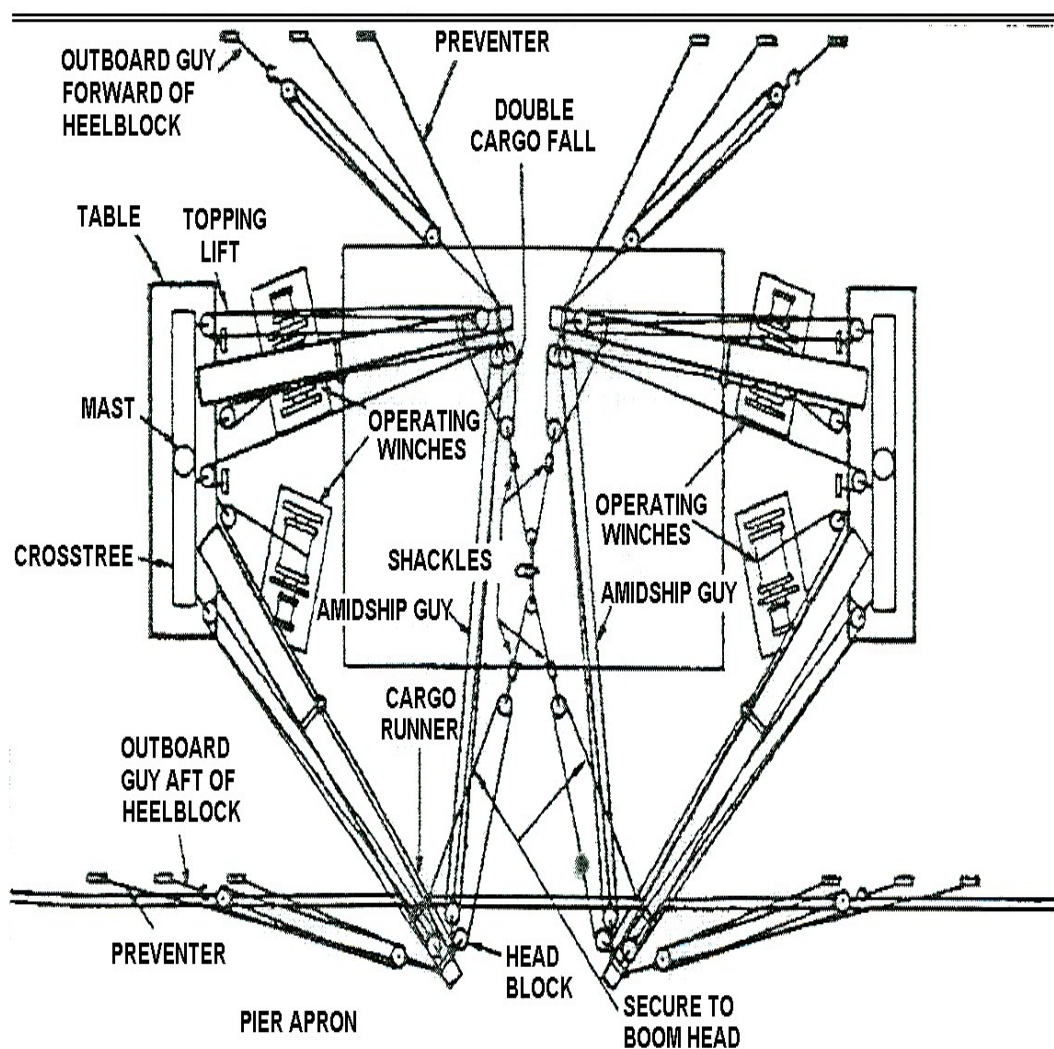

Figure 3-155
1. Direct the hatch gang to reeve the runners through a 12- to 14-inch block and double up the runners (see Figure 3-155).